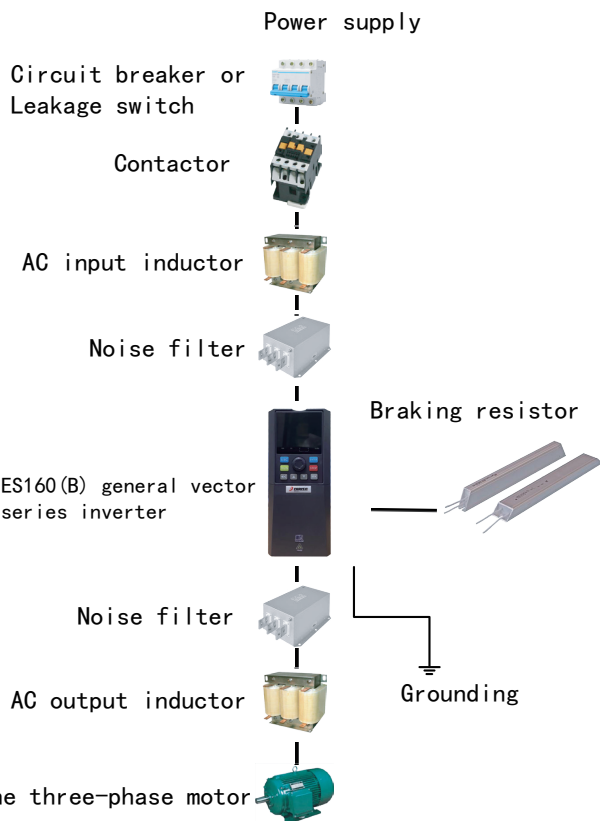

Figure3-8 ES160(B) series inverter and peripheral equipments connecting diagram
The diagram among ES160(B) series inverter and peripheral equipments showing as Figure3-8